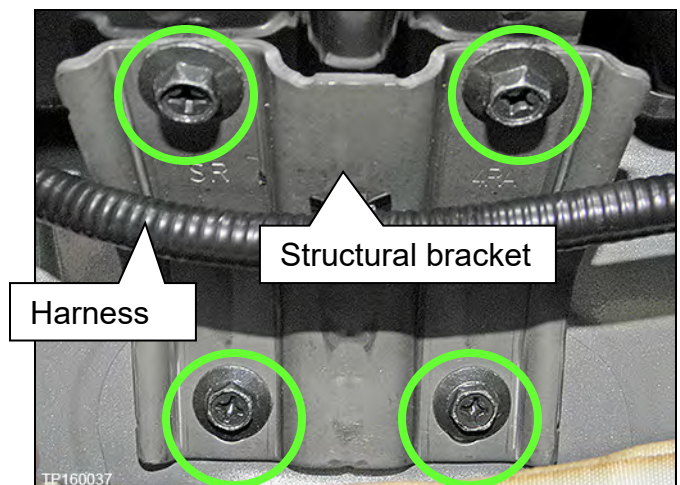

Figure 65
4. Remove the left and right structural brackets (Figure 65) attached to the center reinforcement support (4 bolts each; highlighted in Figure 65).
NOTE: It is not necessary to remove the harness from the driver's side bracket (Figure 65).